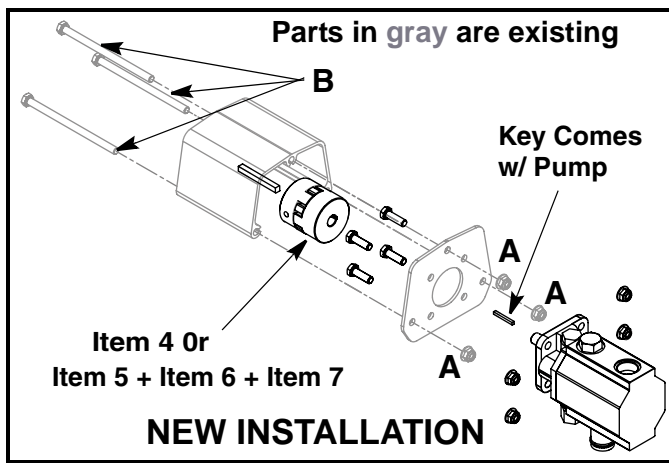

FIGURE 3
New Pump Subassembly Build: (Refer to Figure 3)
24. With the three mounting bolts (B) set into the engine mounting frame, slide the coupling shield onto the three mounting bolts (B) and then the pump subassembly onto the three mounting bolts (B). Refer to Figure 3.
25. Secure the coupling shield and pump subassembly with the three lock washers and nuts (A) removed in Step 11. Tighten hardware securely.